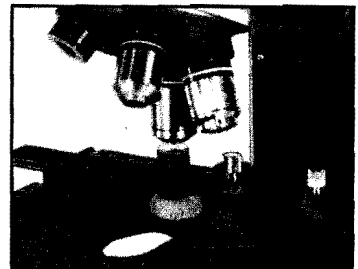

Fig. 4
- ★ It is suggested to place a piece of tissue paper between the specimen and the plunger of the hand press in order to prevent scratching of the polished specimen surface. (Fig. 4)